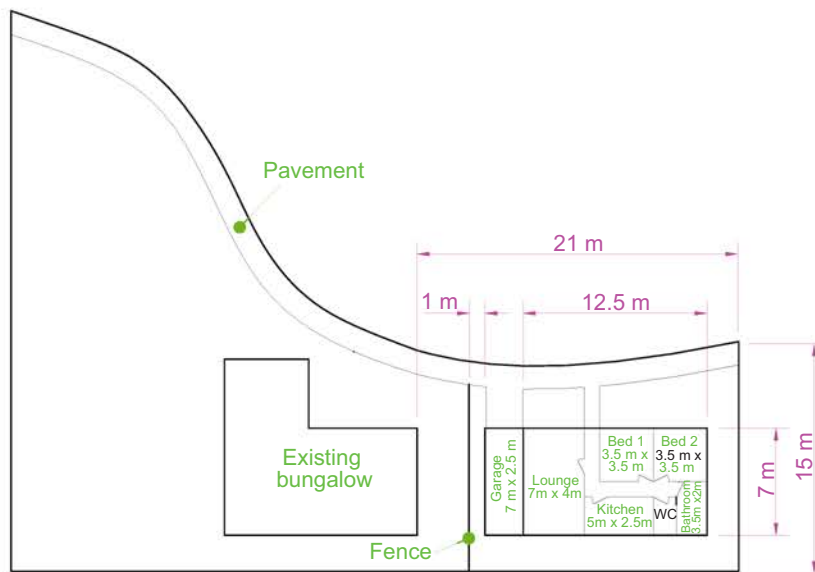
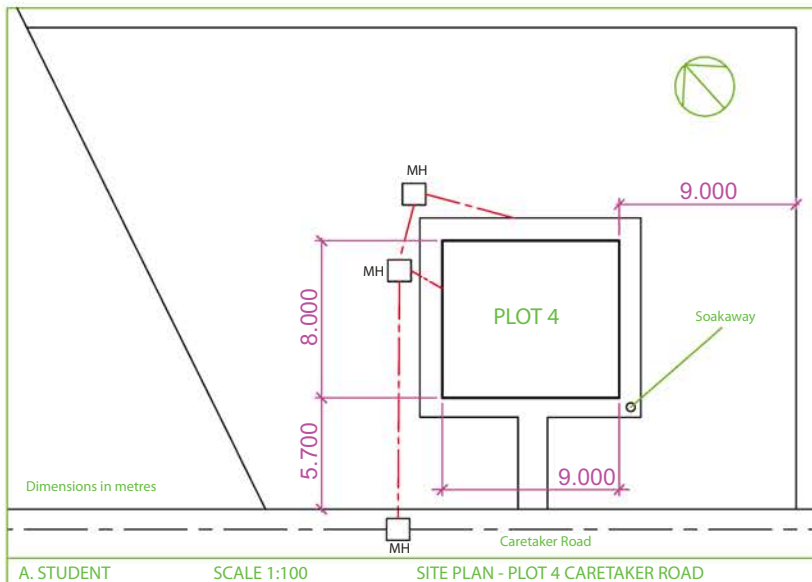
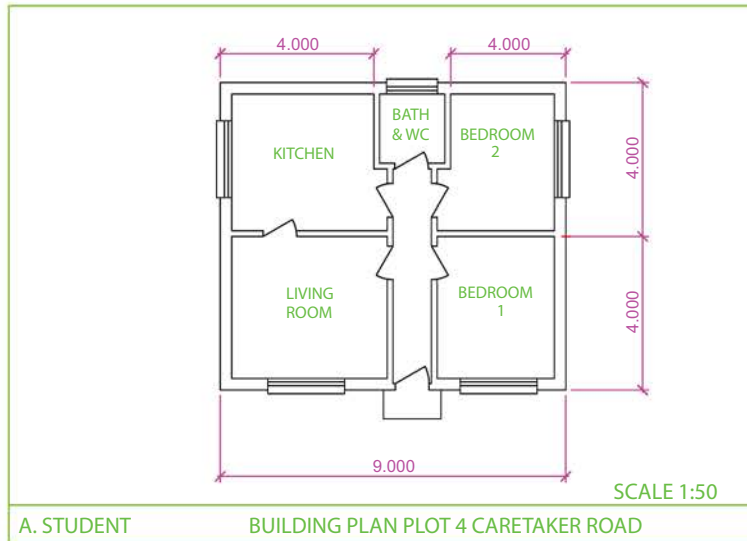

Fig. 17.28 Exercise 1
Fig. 17.30 Exercise 3 – site plan
Fig. 17.31 Exercise 4 – a building
- Fig. 17.28 is a site plan drawn to a scale of 1:200 showing a bungalow to be built in the garden of an existing bungalow. Construct the library of symbols shown in Fig. 17.8 and, by inserting the symbols from the DesignCenter, construct a scale 1:50 drawing of the floor layout plan of the proposed bungalow.
3. Fig. 17.30 shows a scale 1:100 site plan for the proposed bungalow 4 Caretaker Road. Construct the floor layout for the proposed house shown in the drawing Fig. 17.28.
4. Fig. 17.31 shows a building plan of the house in the site plan (Fig. 17.30). Construct a 3D model view of the house making an assumption as to the roofing and the heights connected with your model.